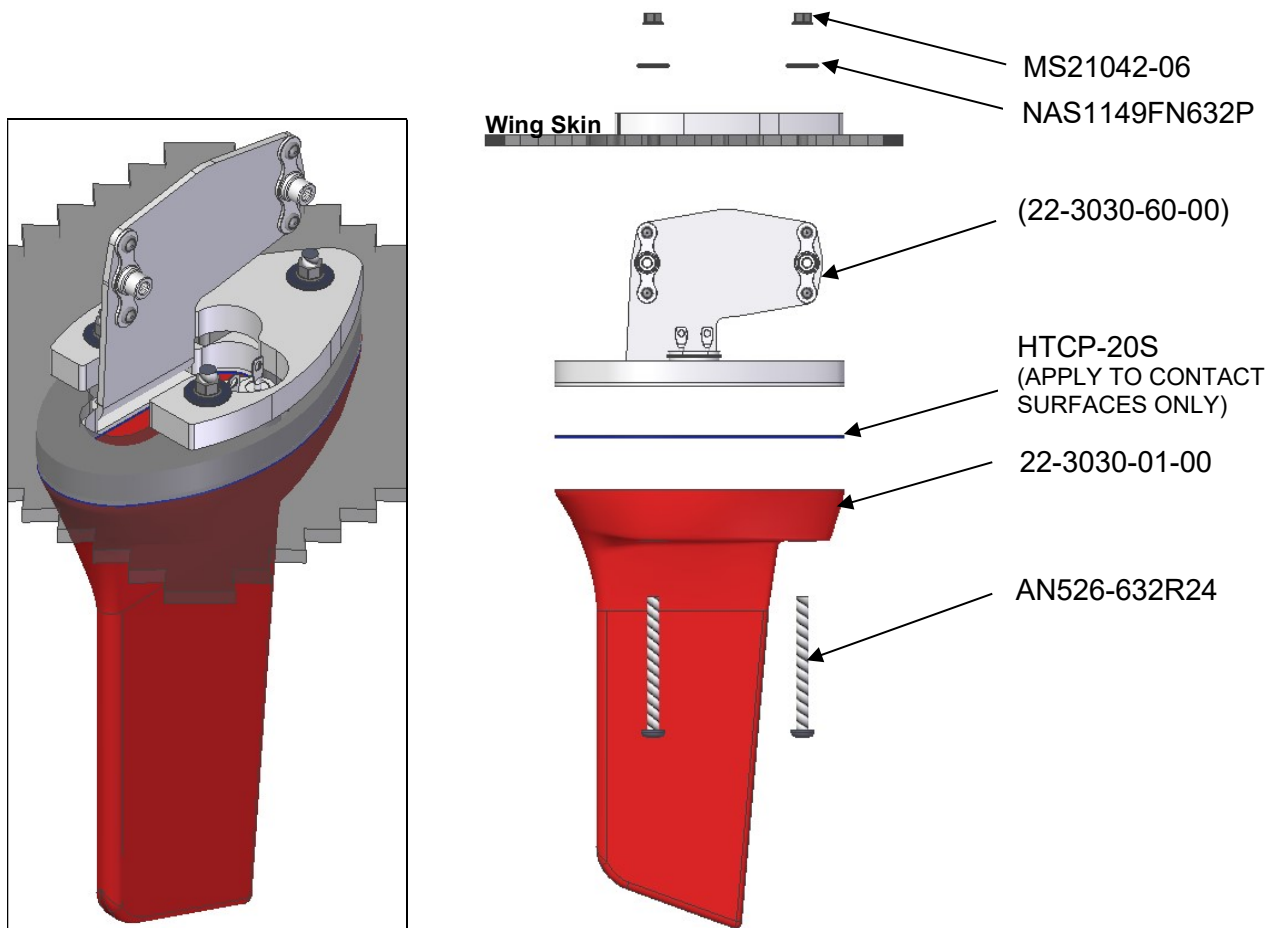

Figure 52: Heated Pitot Static Probe Installation
- 13.3.3** Install the Heated Pitot Static Probe Assembly (p/n: 22-3030-01-00) on the wing according to Figure 52 (wires not shown for clarity) and AMM # DA201-C1, Chapter 34-10. Apply a thin layer of Thermal Conductive paste, a maximum $\frac{1}{2}$ mm thickness, (p/n: HTCP-20S) between the contact surfaces of the Probe Assembly and the Bracket Assembly. Wipe away any excess paste after assembled.